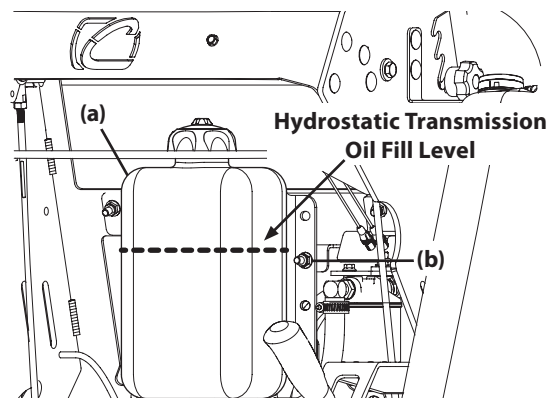

Figure 19
2. Ensure the hydrostatic transmission oil reservoir level is just above the upper reservoir mounting bolts (b) as shown in Figure 19.
7. Add hydrostatic transmission oil until the level is even with the upper reservoir mounting bolts (Figure 19).